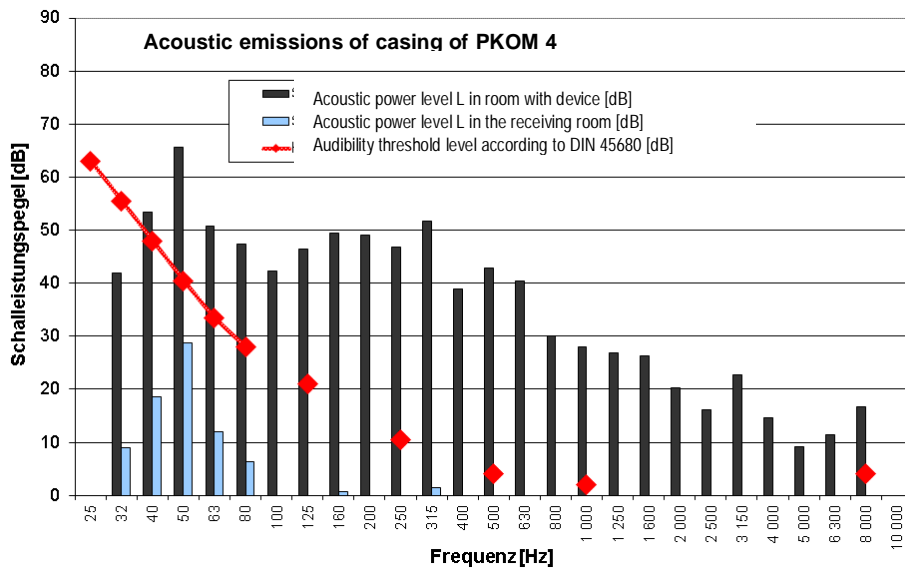

Figure 1: Noise emission of casing of unit PKOM 4 PKOM4A
Sound suppression: The acoustic pressure level was evaluated as 49 dB (A) in the room where the unit is installed with an equivalent absorption area of 4 m² and at an air flow rate of 200 m³/h. This is significantly higher than the threshold value of 35 dB(A), the unit must therefore be installed in an adequately sound insulated room separate from the living area, see figure 1.